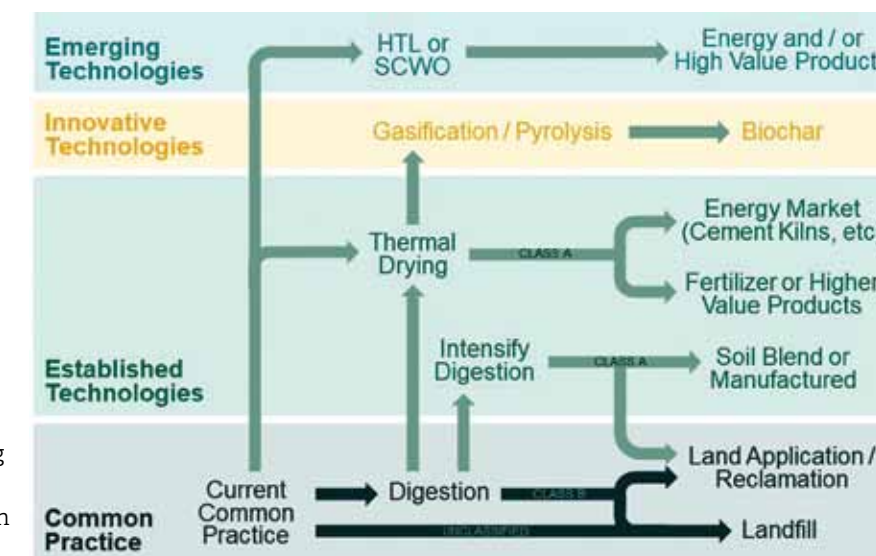

Figure 1. Biosolids innovation road map—emerging technologies: supercritical water oxidation, hypothermal liquifaction
When planning for future uncertainty, potential regulatory changes, and market restrictions, considering all options holistically is important. Figure 1 provides a high-level biosolids road map that can be considered for many plants that do not already have incineration. Many facilities have stabilization to allow land application or they landfill their sludge or biosolids. The road map can be one way to approach difficult challenges such as the following:
**Figure 1. The adoption and spread of novel environmental technologies like nitrogen-reducing I/A septic systems do not happen on their own; behavior change strategies that have worked for other high-cost environmental technologies can be applied to encourage the spread of I/A systems**
Broader-scale implementation of high-performing I/A septic systems (Figure 1) and other BMPs is needed to curtail excess nutrient loading alongside common effective traditional technologies, such as sewer expansion.6 But apart from localized government mandates requiring installation of I/A systems under certain conditions, their adoption is still voluntary, primarily occurring upon property transfer or septic system failure or at the town-level.9,11,12 Given the absence of regulations mandating these systems, wider implementation in the short-term will require encouraging adoption in other ways. The adoption of a technology like I/A systems is a type of behavior change.13 To encourage the adoption and wider diffusion of I/A systems at a household-level, we can learn from behavior change theory and the technology adoption and diffusion literature. Diffusion is the process of social communication in which new ideas and technologies are spread through a social system; it is achieved as innovations circulate by individuals making the decision to adopt over time.14 This decision is often based on the experience of peers who have already adopted.15 We can draw lessons from the adoption and diffusion of technologies with similar attributes to I/A systems and behavior change strategies used to encourage their diffusion. These technologies include household solar panels, electric vehicles, and agricultural BMPs, and share the following characteristics with I/A septic systems: